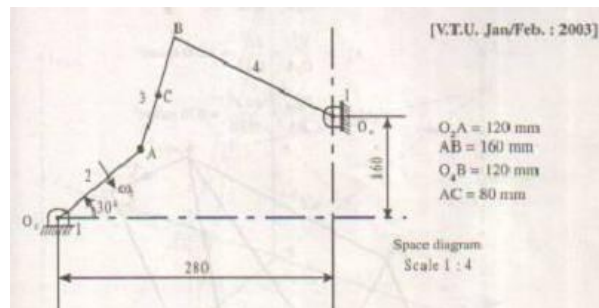

Fig. 2.3
3. The crank O2A of four bar mechanism shown in fig.2.3, is rotating clockwise at a constant speed of 100 rad/sec. Determine (a) The acceleration of the point C (b) The angular acceleration of the links 3 & 4.